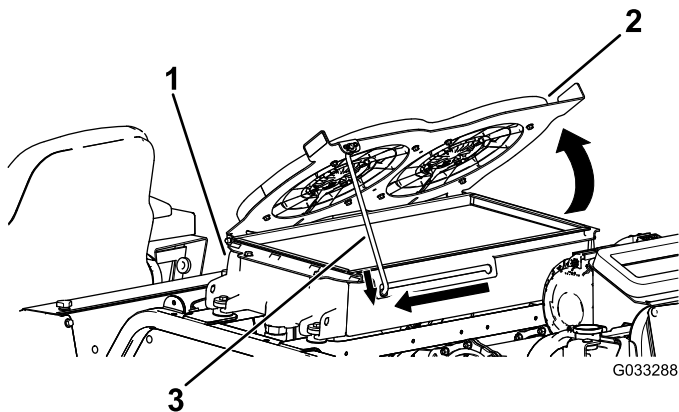

**Figure 89**
4. Pivot the hydraulic-cooling fans downward and lock the prop rod into the notch (Figure 89).